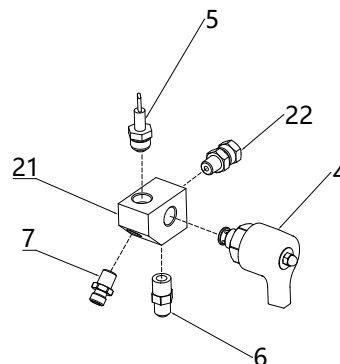

FIG. 7 Prime Valve
1. Remove the prime valve, as shown in Figure 7.
4. Reassemble according to the instructions in Figure 7, in reverse order.